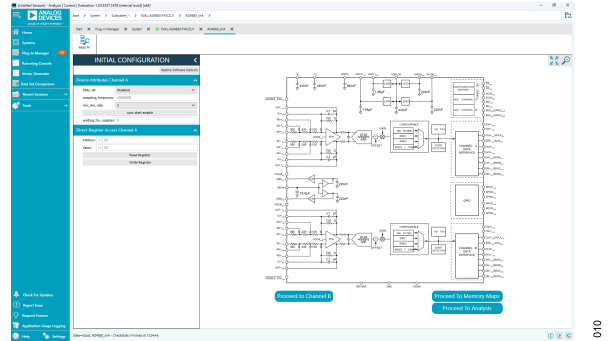

Figure 10. AD4880 Channel A Tab in the ACE Software
- ▶ Two buttons in the lower-right corner (**Proceed to Memory Maps** and **Proceed to Analysis**), which are shown in Figure 10.